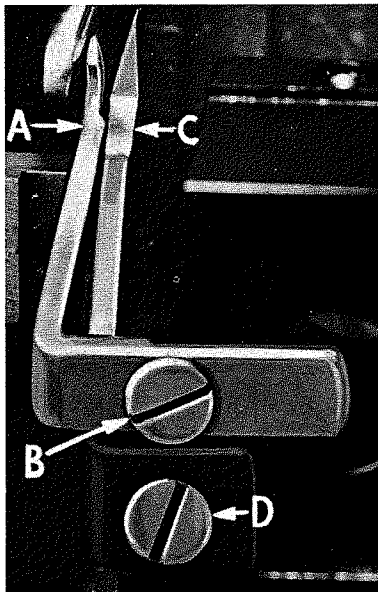

Fig. 5
Set rear needle guard (A, Fig. 5) as high as possible, without interfering with either lower looper or movement of lower knife holder; but still in position to deflect needle forward  $.002 - .004$  inch. Screw (B) is used to set rear needle guard.
Assemble front needle guard (C, Fig. 5). When lower looper is springing needle off back guard, set front needle guard as close as possible to needle without touching. Screw (D) is used to adjust and set front needle guard. After this setting, make sure there is no interference between needle guard and main feed dog.